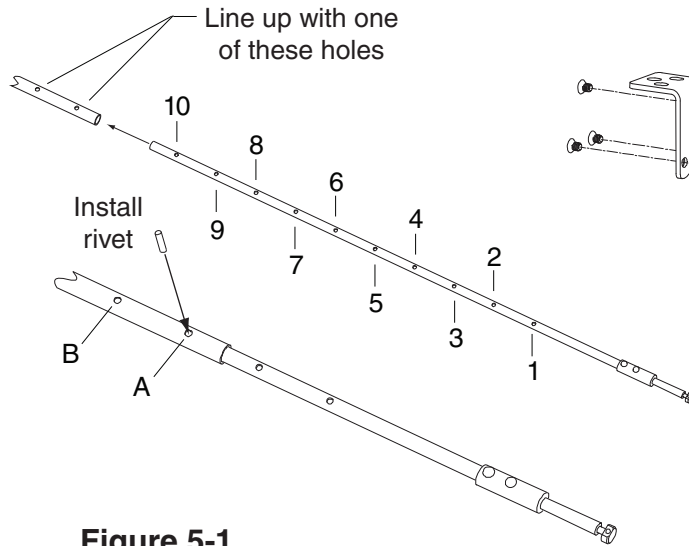

Figure 5-1
- Rivet two-piece top rod together. Align holes according to door height (Figure 5-1). Rod length for a 7-foot door is approximately 38½". Top rod sections are longer than bottom rod sections.